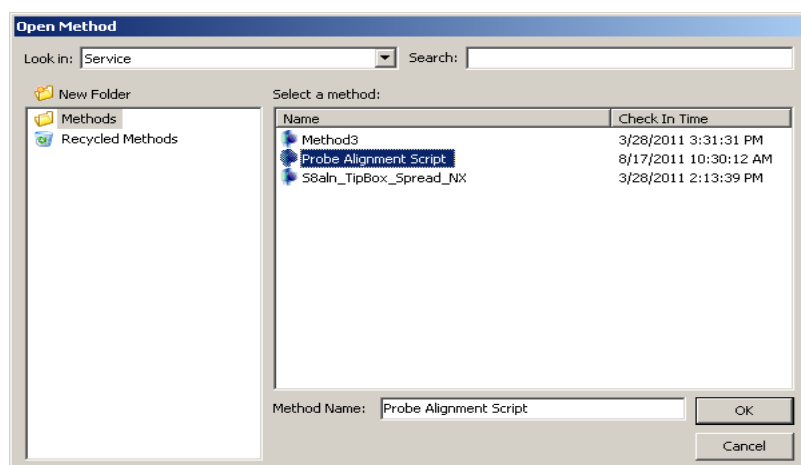

Figure 1. Opening Probe Alignment Script method.
- 7 Close P20 Tip Load method, but stay in the same project folder. Open the Probe Alignment Script method as shown in Figure 1 and click OK.